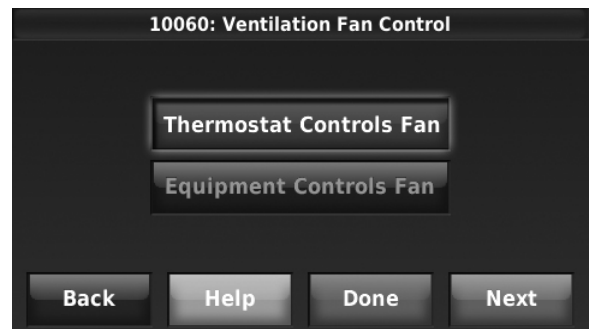

Fig. 256.
4. Select the Ventilation Fan Control. See “Ventilation Fan Control (ISU 10060)” on page 112 for more information. See Fig. 256.